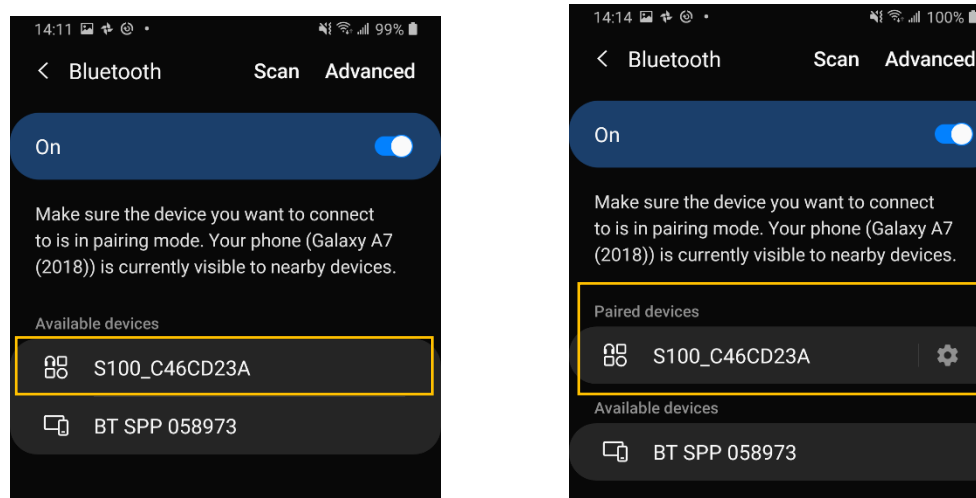

Figure 3-1
2. Pair phone with the S100, which has a Bluetooth device name starting with “S100”. See Figure 3-1.